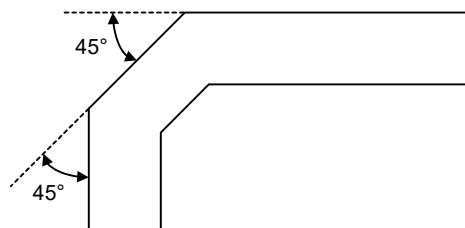

Figure 12-3 Trace Routing
- For high-speed signals, the number of corners and vias should be kept to a minimum. If a 90° bend is required, it is recommended to use two 45° bends instead. Refer to Figure 12-3.